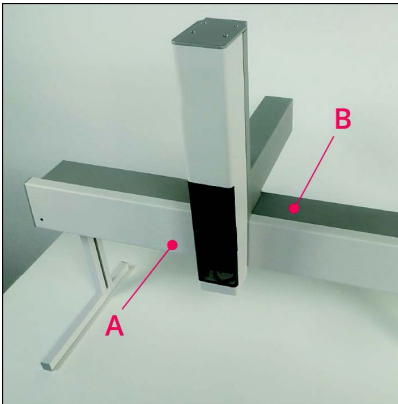

Figure 98: X-beam Front Cover Removal 1
- The X-beam front cover (A) can be removed while the X-beam rear cover (B) stays in place. See Figure 98.